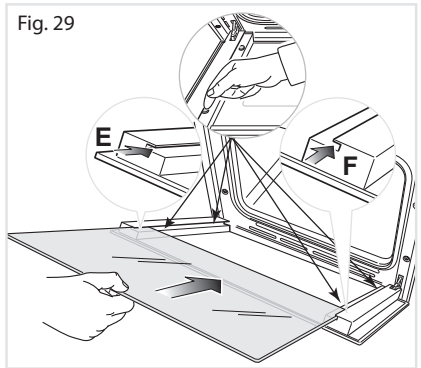
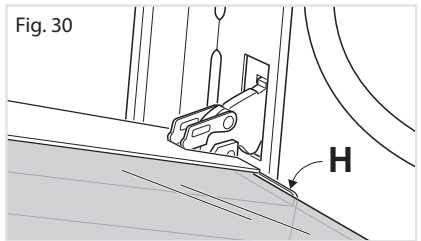

Fig. 29
Fig. 30
IMPORTANT: It is advisable, while refitting the glass, to keep pressed in position the four rubber pads **D**, by a finger, to avoid breakage or slippage of the rubber pads themselves (Fig. 29).
- Insert the pane in the left **E** and right **F** slide guides (fig. 29), and gently slide it to the retainers **H** (Fig. 30).